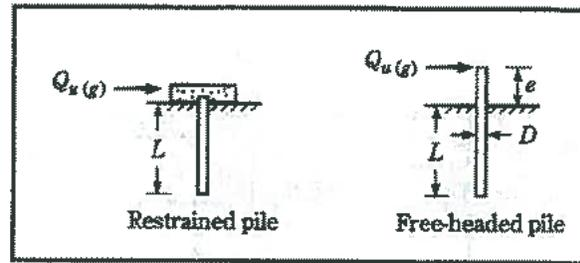

Figure 2. Broms method restraint assumptions
The Broms method relies on a few variables as shown in Figures 2 and 3. For this specific situation, the anchors will act in a restrained pile method (at least initially), therefore the values of Q (capacity) and L (length) are required. Additionally, the values of undrained shear strength (c) and anchor diameter (D) are required. Use of this information allows a ratio to be calculated which directly compares the values of Q/cD^2 (the ultimate lateral resistance) and L/D (the embedment length). For this project, these ratios are provided in Table 3.